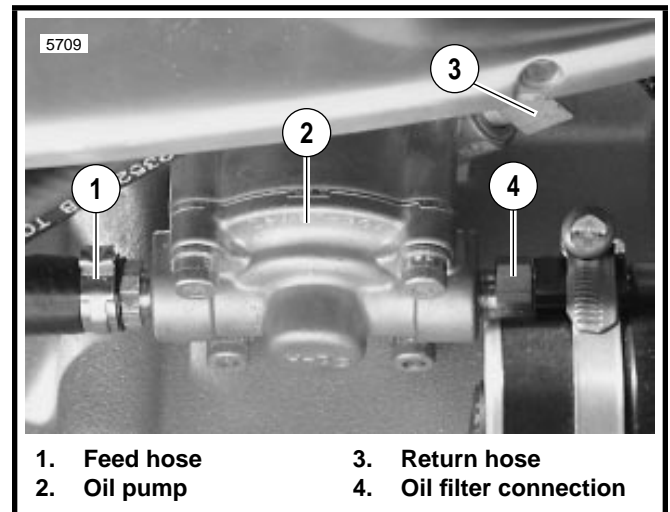

Figure 3-39. Oil Pump Connections
See Figure 3-39. The feed (1) and return hoses (3) run together between the swingarm mount block and crankcase, beneath the engine and forward to the oil pump. The feed hose attaches to the rear most oil pump fitting; the return hose connects forward and above.